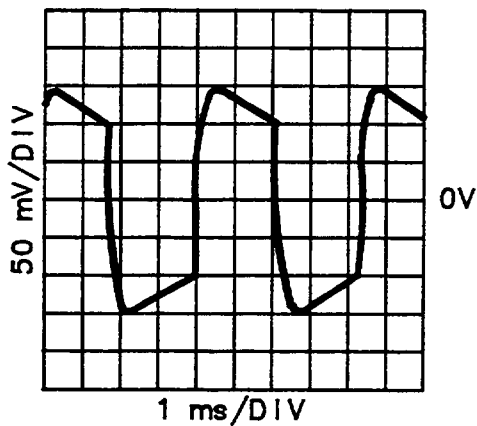

Figure 8-5. A4U7 pin 3 Range Attenuator 1 Waveform
8. Connect the oscilloscope to A4U7 pin 3. Verify the signal shown in Figure 8-5. The signal level should be 0.12 V_{p-p} ±0.01V.